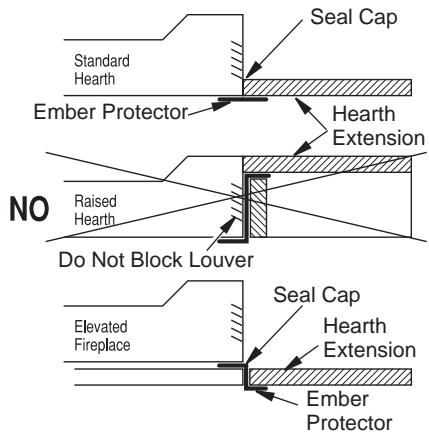

Figure 5 - Hearth Extensions
- Before securing fireplace to prepared framing, ember protector (provided) must be placed between hearth extension (not supplied) and under bottom front edge of fireplace to protect against glowing embers falling through. If fireplace is to be installed on a raised platform, a Z-type ember protector (not supplied) must be fabricated to fit your required platform height. Ember protector should extend under fireplace a minimum of 1". Ember protector should be made of galvanized sheet metal (28 gauge minimum) to prevent corrosion (see Figure 5).
Provide a means to prevent hearth extension from shifting and seal gap between fireplace frame and hearth extension with noncombustible material (see Figure 5).